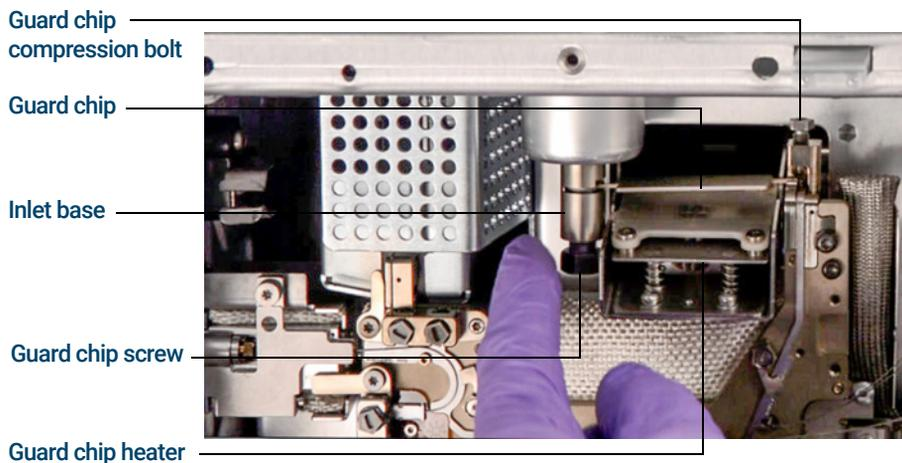

Figure 12. Guard chip and related parts
- 9 Pull the compression bolt access plate out to allow the torque driver to access the Guard chip compression bolt. (See **Figure 12** on page 64.)